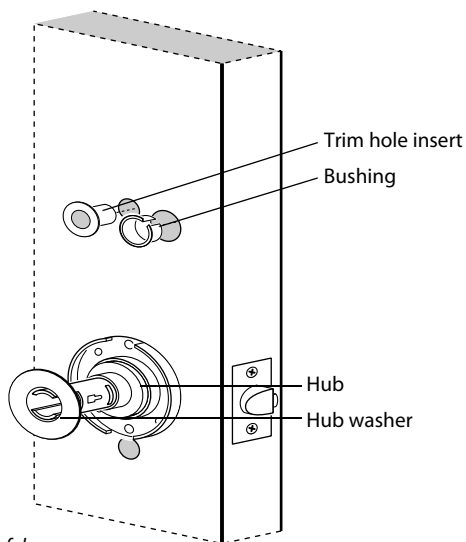

Figure 11 Installing the outside trim hole insert, bushing, and hub washer
- 1 On the outside of the door, insert the trim hole insert into the upper trim hole, as shown in Figure 11.